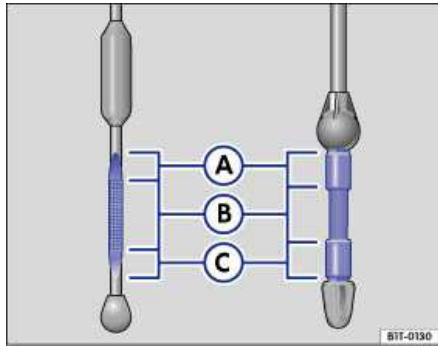
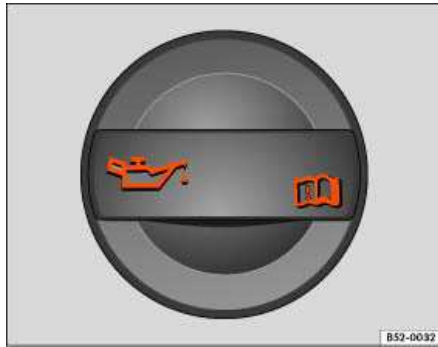

Fig. 169 Oil dipstick with engine oil level marks.
Fig. 170 In the engine compartment: Engine oil filler cap.
4. Find the oil filler opening and the dipstick. You can identify these by the  symbol on the engine oil filler cap ⇒ fig. 170 and the colored handle on the dipstick. If you are not sure where the cap and the dipstick are located, see your authorized Volkswagen dealer or authorized Volkswagen Service Facility for assistance.
7. Remove the dipstick again and read the oil level on the dipstick ⇒ fig. 169 as described below:
- (A): **Do not** add any oil ⇒ . Continue with step 15.
- (B): Oil may be added (about 1 pint / 0.5 liter). Continue with step 8 or step 15.
- (C): **You must** add oil (about 1 quart / 1.0 liter). Continue with step 8.
9. Remove the cap on the engine oil filler opening ⇒ fig. 170.
13. After adding oil, the level must at least be in the center of the ⇒ fig. 169 \(B\) area, but never above (A) ⇒ .
<a href="#">fig. 169</a>	Required action according to the respective engine oil level: